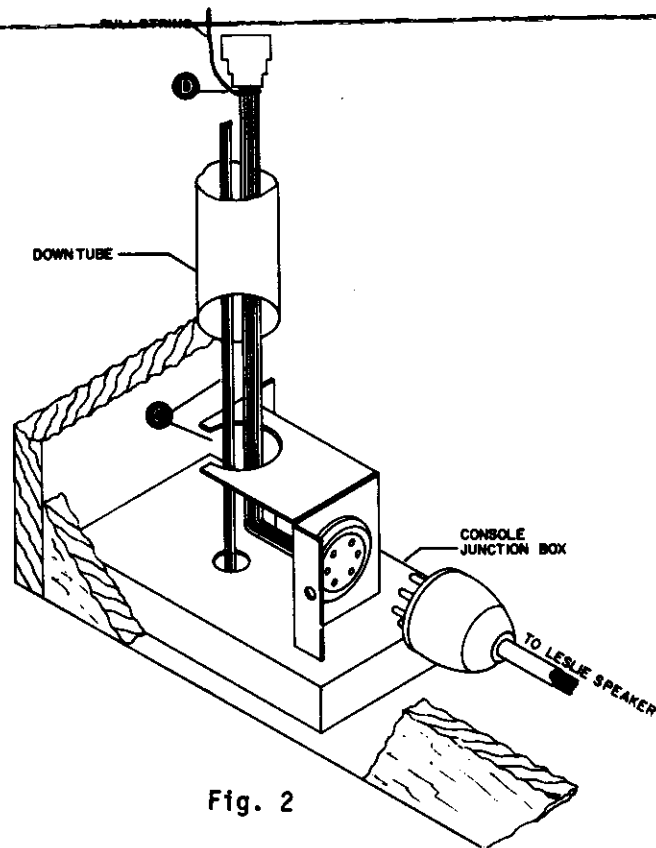

Fig. 2
6. Guide the existing HAMMOND wires through the opening in the extension chassis. (See "C" on Fig. 2)
9. Fit the down tube into the extension chassis. Then mount the extension chassis to the HAMMOND with the BRONZED wood screws provided. (See Fig. 2)
14. Plug the Leslie Speaker cable into its socket on the console connector extension chassis. (See Fig. 2)